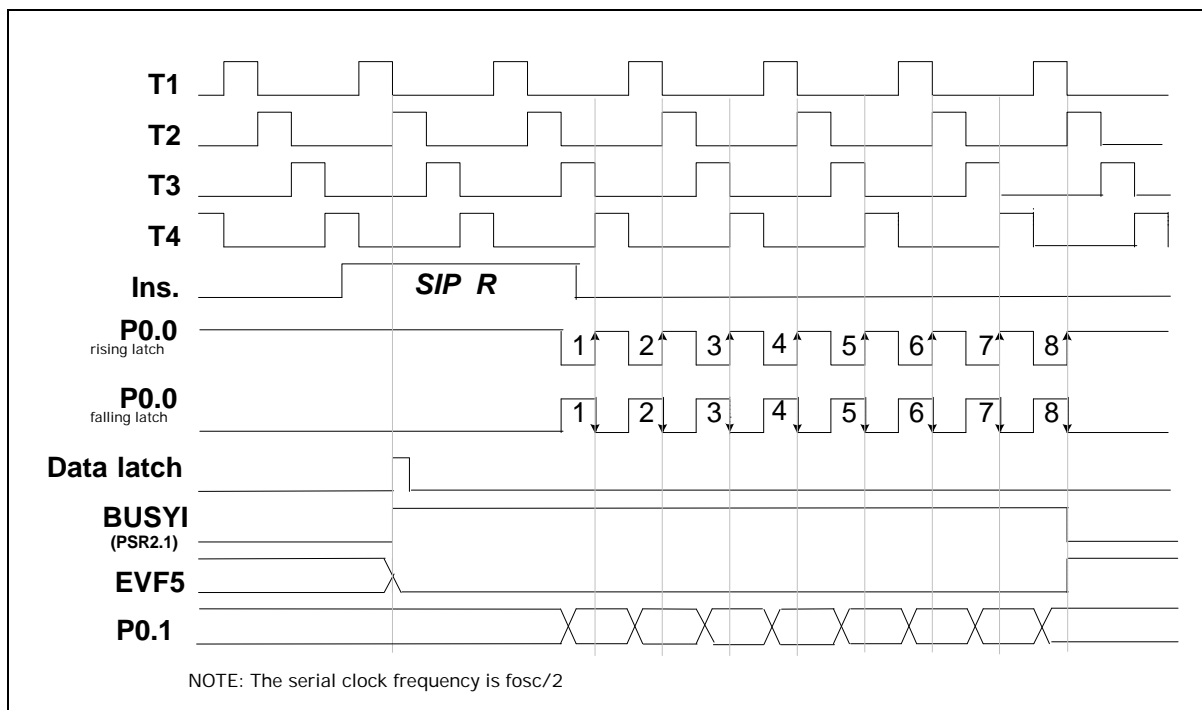

Figure 5-12 Timing of the Serial Input Function (SIP R)
- (1) **When in the first time the SIP R instruction is executed, the data will be loaded to the ACC and RAM from the serial input buffer. But this data is not meaningful, it is used to enable serial port.** There are two methods to get the serial data, one is interrupt and the other is polling. When enable the serial input, the bit 1 of port status register 2 (PRS2) will automatically be set to "1" ($BUSYI = 1$). Then the P0.0 pin will send out 8 clocks or accept 8 clocks from external device and the data from the P0.1 pin will be loaded to SIB buffer at the rising or falling edge of the P0.0 pin. After the 8 clocks have been sent, $BUSYI$ will be reset to "0" and $EVF.5$ will be set to "1." At this time, if $IEF.5$ has been set ($IEF.5 = 1$), an interrupt is executed then the SIP R instruction can get the correct data from the serial input buffer (SIB), **low nibble of SIB moves to ACC register and the high nibble moves to RAM**; if $HEF.5$ has been set ($HEF.5 = 1$), the hold state is terminated. The polling method is to check the status of $PSR2.1$ ($BUSYI$) to know whether the serial input process is completed or not. If a serial input process is not completed, but the SIP R instruction is executed again, the data will be lost. The timing is shown in Figure 5-12.